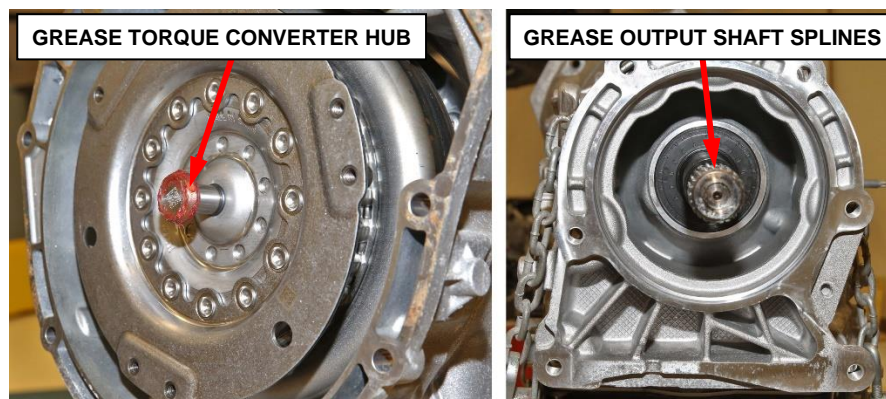

Figure 51 – Grease Torque Converter Hub and Output Shaft Splines
68. Apply a light coating of Mopar® High Temp Grease to the torque converter hub pocket in the rear pocket of the engine crankshaft and to the output shaft splines (Figure 51).